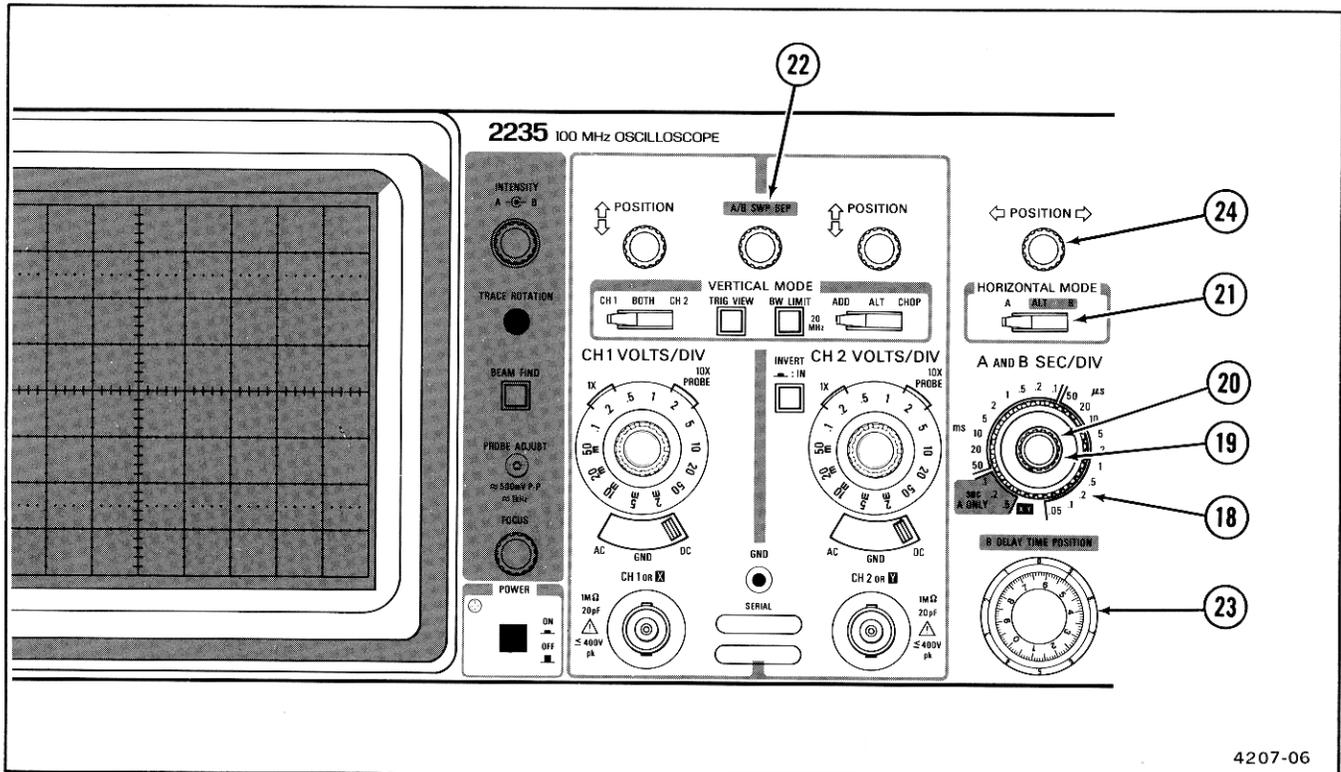

Figure 2-5. Horizontal controls.
Refer to Figure 2-5 for location of items 18 through 24.
⑱ A and B SEC/DIV Switches—Used to select the sweep speeds for the A and B Sweep Generator in a 1-2-5 sequence. To obtain calibrated sweep speeds, the A and B SEC/DIV Variable control must be in the calibrated detent (fully clockwise).